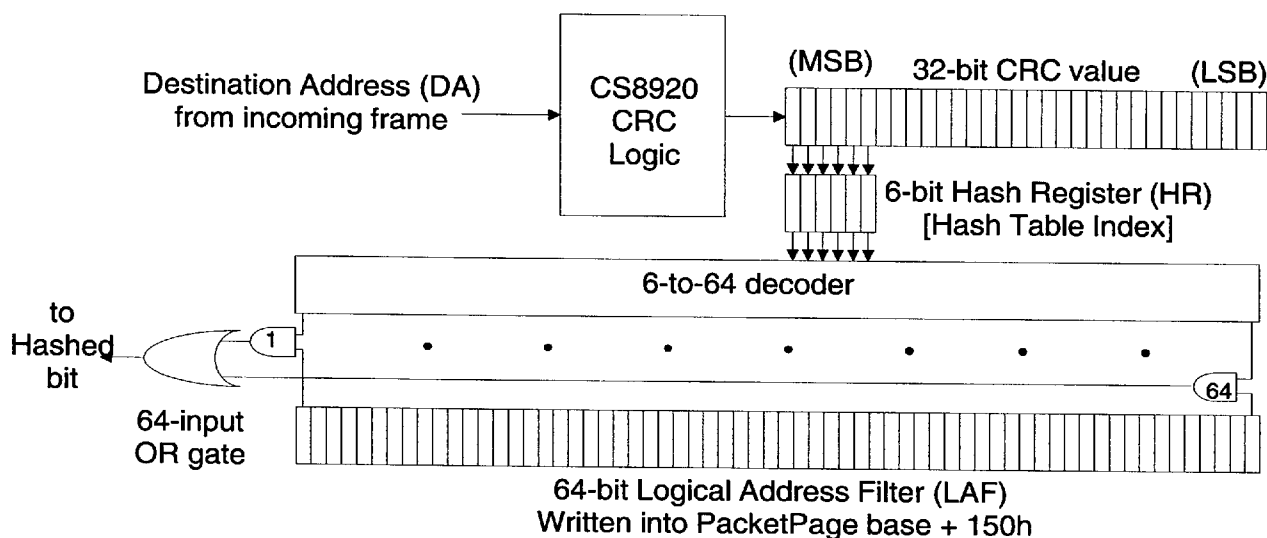

Figure 5.5. Hash Filter Operation
Hash Filter Operation: See Figure 5.5. The DA of the incoming frame is passed through the CRC logic, generating a 32-bit CRC value. The six most-significant bits of the CRC are latched into the 6-bit hash register (HR). The contents of the HR are passed through a 6-to-64-bit decoder, asserting one of the decoder's outputs. The asserted output is compared with a corresponding bit in the 64-bit Logical Address Filter, located at PacketPage base + 0150h. If the decoder output and the Logical Address Filter bit match, the frame passes the hash filter and the Hashed bit (Register 4, RxEvent, Bit 9) is set. If the two do not match, the frame fails the filter and the Hashed bit is clear.